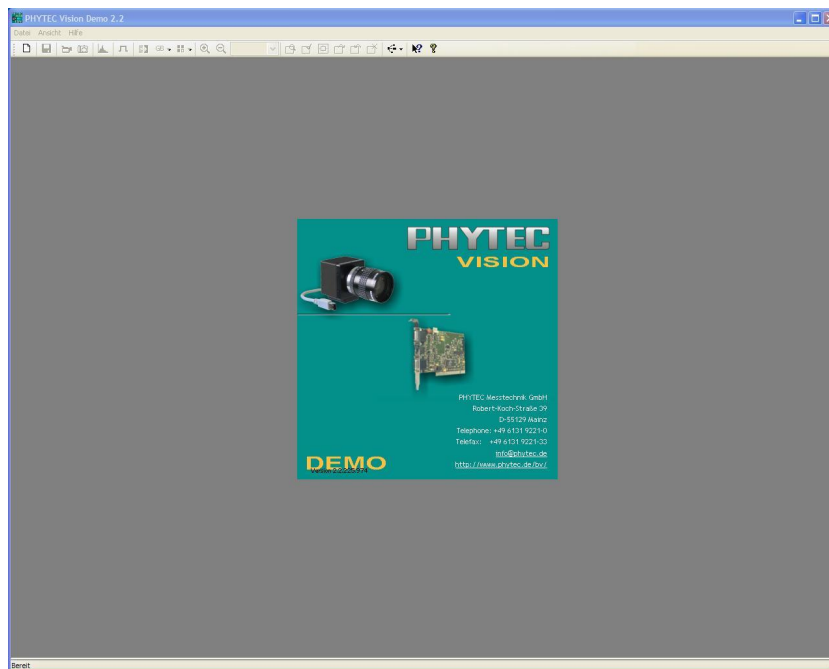

Figure 20: The Program "PHYTEC Vision Demo"
- The program title screen will appear (*Figure 20*).